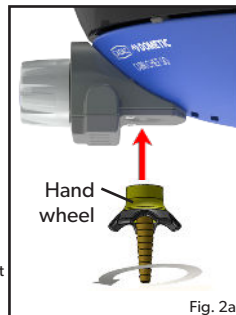

Fig. 2a
- **NOTE!** When installing the tailpiece, ensure it is held straight while tightening the tailpiece nut, in order to prevent a possible gas leak. Tighten with a suitable spanner or hand wheel (Fig. 2a).